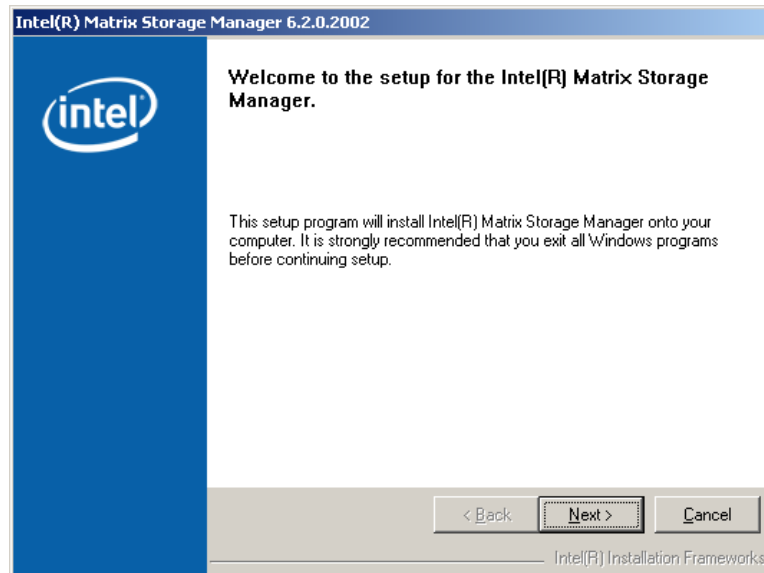

Figure 7-35: Matrix Storage Manager Welcome Screen
Step 7: Figure 7-35 shows the **Matrix Storage Manager** welcome screen.